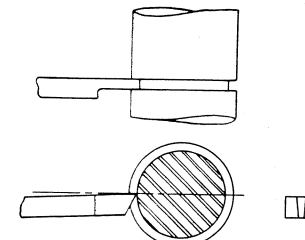

Fig. 10
**CUTTING OFF.** For cutting off, a special tool (See Fig. 10) is used. This tool is relieved from the back with the maximum width at the cutting edge to insure proper clearance throughout the operation. The tool must be set exactly at the center of the work and solidly clamped in the tool post. Take the size cut that seems to work the best; too light cuts may result in chattering while cuts that are too heavy will jam the lathe and very likely break the tool. The proper depth of this cut and the speed of the lathe depend, of course, upon the material of the work. When the work has been severed, finish off the ends with a facing tool.